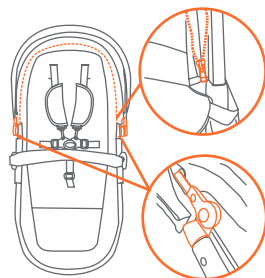

Fig. 8a
- 8) • **To attach the removable canopy:** Snap the Canopy clips on the inside of the toddler seat tubes. Zip the Canopy to the seat frame (Fig. 8a).